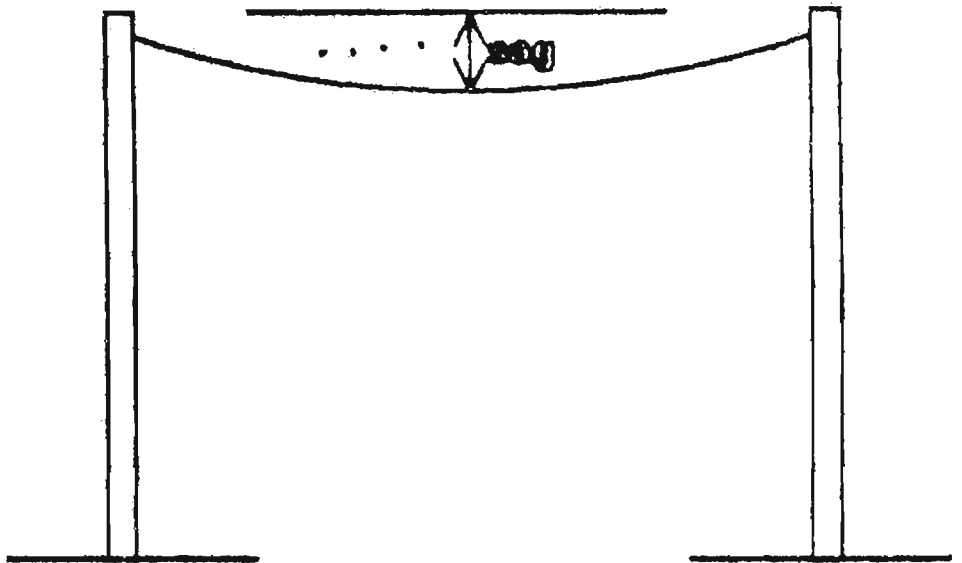

Figure 6.5: Spacing of Sag
- The wire sag should be observed visually from some distance (about 50 metres); the extent of sag should be the same between all poles (Figure 6.5). The sag in the cable can be measured using a level but this will not be possible in all cases.